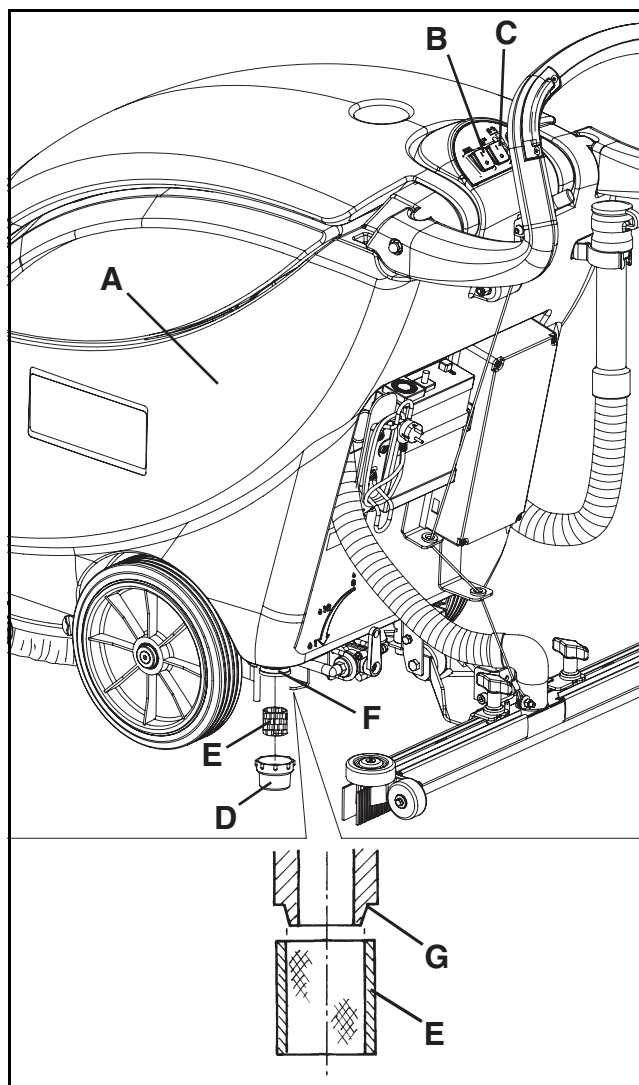

Figure 28
1. Empty the solution tank (A, Fig. 28) according to the procedure shown in the relevant paragraph.
3. Make sure that the switches (B and C, Fig. 28) are in the "0" position.
4. Remove the transparent cover (D, Fig. 28) and the filter strainer (E), then clean and reinstall them on the support (F).
Properly install the strainer (E, Fig. 28) in the housing (G) of the support (F).